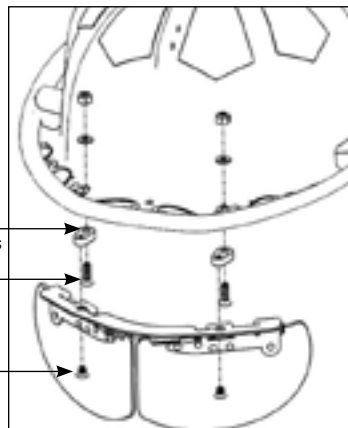

Figure 2
- Step 4: Assemble screws, washers, nuts, and brackets according to Figure 2. Note, the rubber washers will not be used.